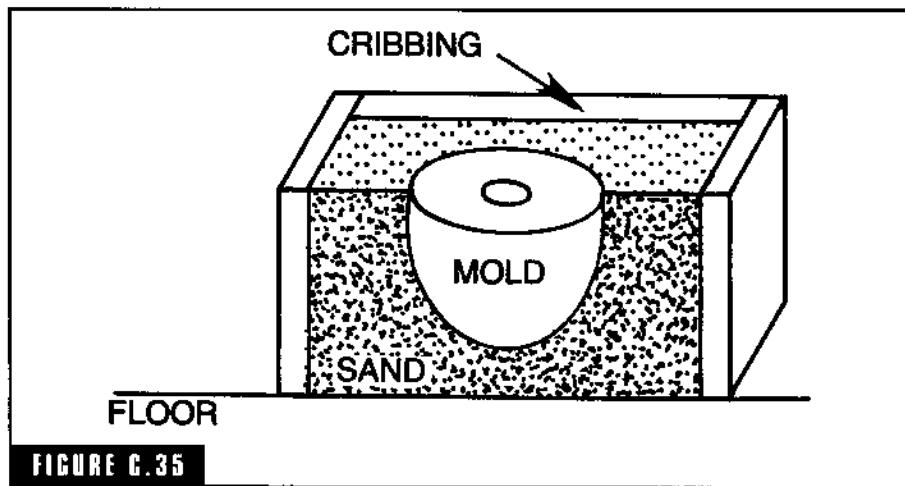

FIGURE C.35
**cribbing** Also called curbing (Fig. C-35). A large mold is surrounded with heavy planks or steel beams and the space between the cribbing is rammed with floor sand to back and strengthen the mold. In solid investment molds this practice is widespread due to the fragile characteristics of a calcined mold. Cribbing will also prevent a run out should the mold crack during pouring. Should the mold be lowered into a pit and then supported by rammed sand, the term is *pitting*. The end results are the same.